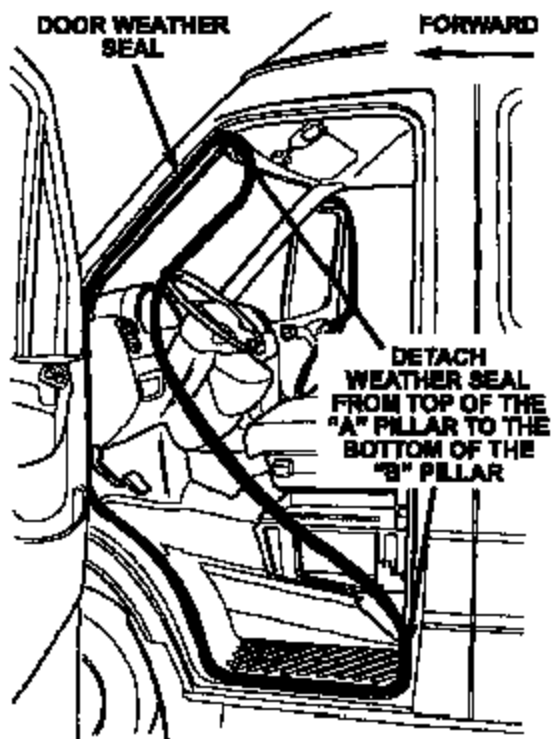

Figure 2 – Drivers Side Shown
2. Detach the door weather seal from the upper end of the A-pillar to the lower end of the B-pillar on the driver and passenger side door openings (Figure 2).
15. Install the door weather seal on driver and passenger side door openings (Figure 2).